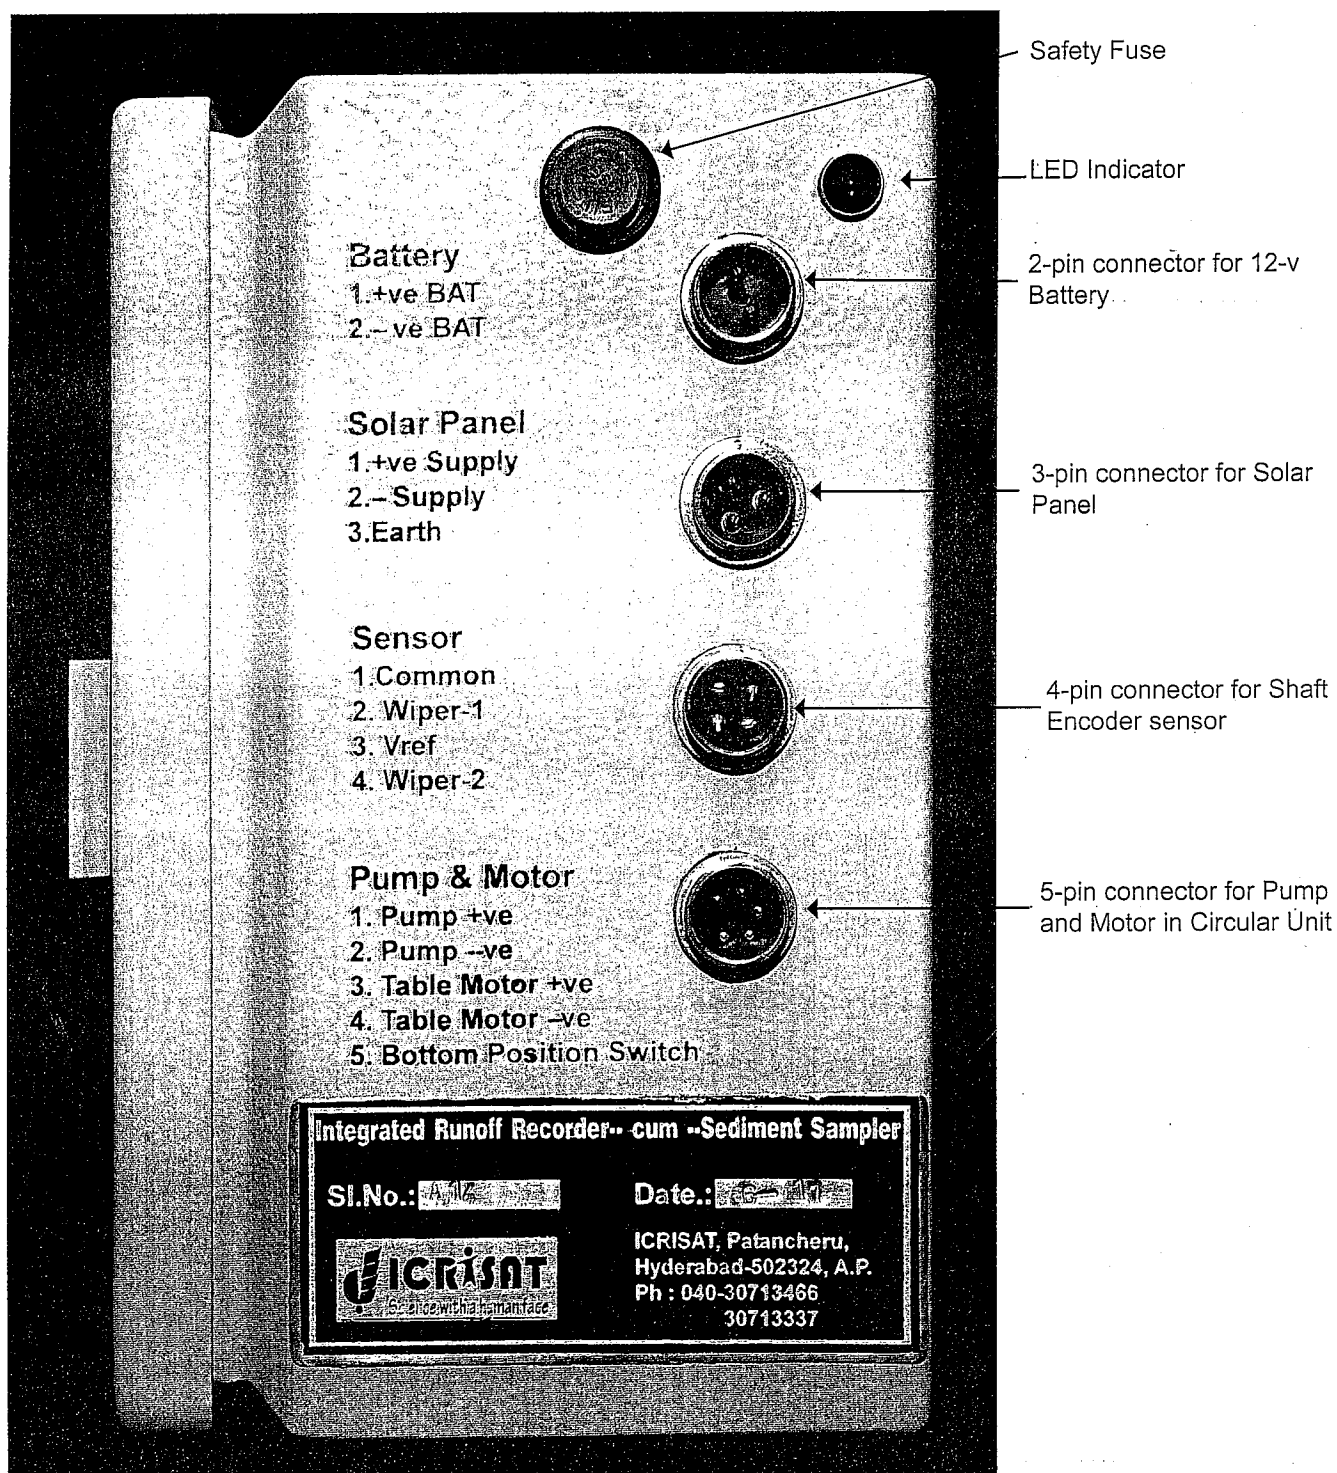
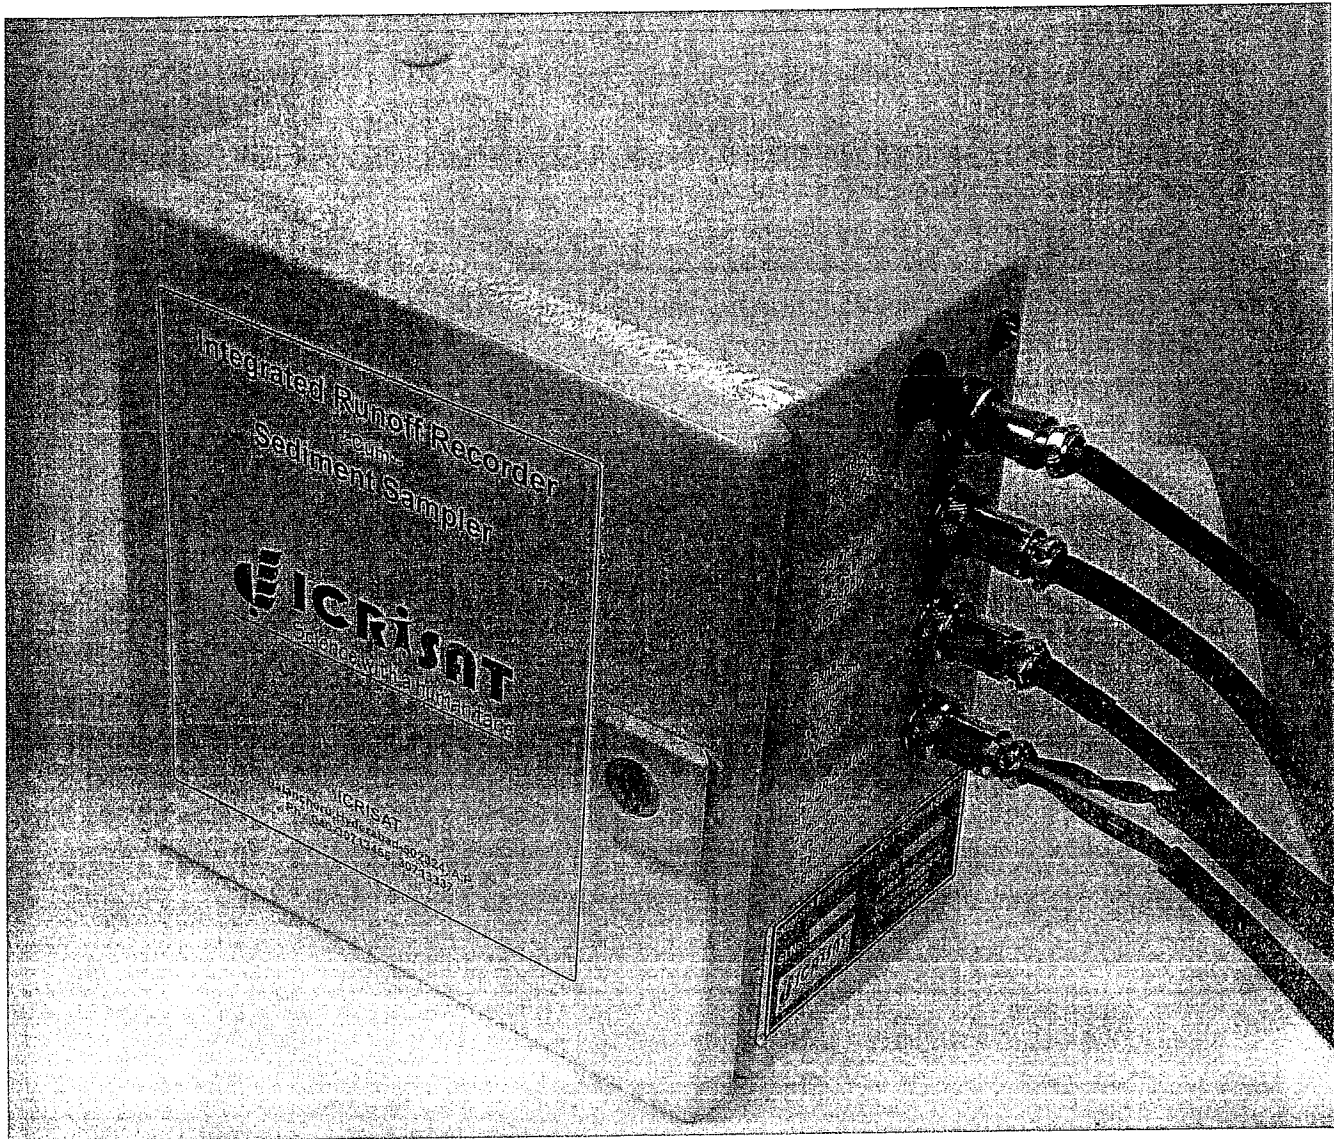

Figure 8. Side view showing key parts of data logger cum microprocessor control unit of IDRSMU
Figure 9. Side view showing various connectors of data logger cum microprocessor control unit of IDRSMU
2. Mount the water level sensor (shaft encoder) unit firmly and insert its connector to DLCMCI (Fig. 8 showing 4-pin connector for shaft encoder).
3. If main battery is to be installed: Prepare connection to main battery (B1) observing proper polarity (+ and -). **Note: Reverse connection of battery B1 may damage DLCMCI.** However, in the new DLCMCI unit one fuse and one small LED bulb (Fig. 8) have been provided to protect the unit from the wrong electrical connections. Insert the connector to DLCMCI. Watch on LCD display B1 voltage. It should be about 12V (Fig. 9).
4. If solar panel is to be installed, prepare connection to Solar Panel to observe proper polarity (Fig. 9 showing the 3-pin connector for solar panel).